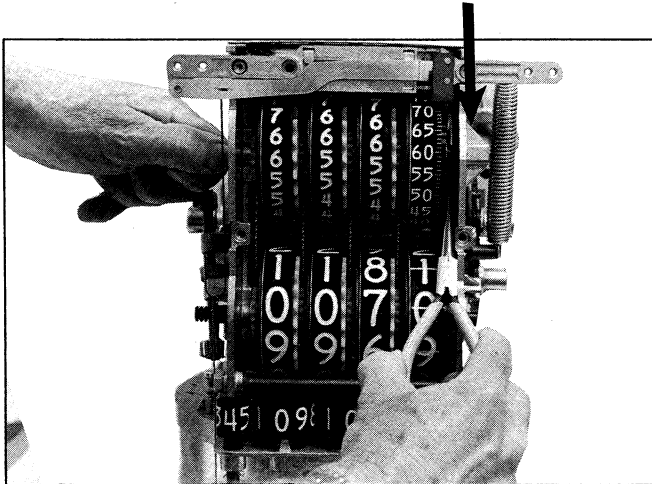

Figure 27. Installing end-play washer (one only) on right side.
- c. Insert one 0.010 inch (0.25 mm) end-play washer between **right-hand** wheel and frame by withdrawing long dummy shaft far enough to permit insertion, Figure 27. Small flat-nose pliers or tweezers are best suited for use in inserting end-play washers.